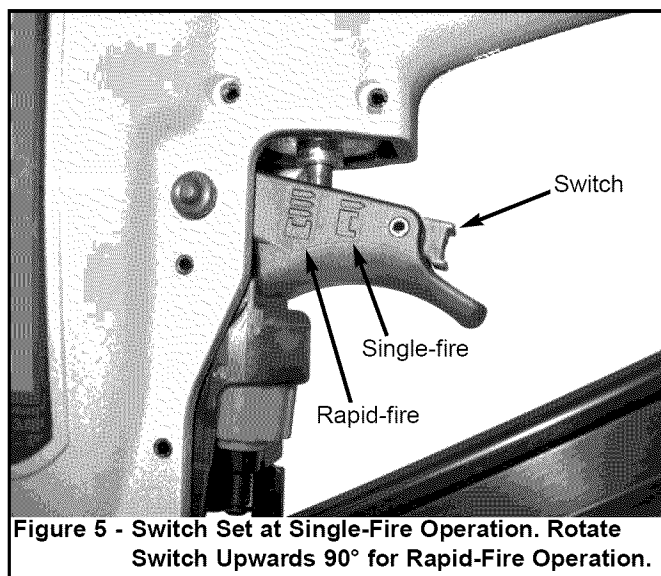

Figure 5 - Switch Set at Single-Fire Operation. Rotate Switch Upwards 90° for Rapid-Fire Operation.
Refer to Figures 5, 6, 7 & 8 (pages 4 and 5).
- The tool is equipped with a rotating switch that can be set to rapid-fire or single-fire mode (see Figure 5). When the switch is set to single-fire mode, the tool will not drive a second fastener until the trigger is fully released and pulled again.